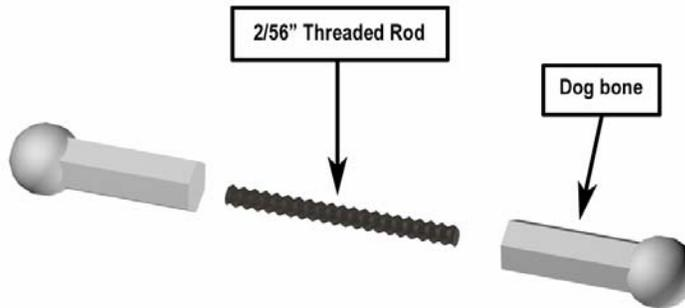

Figure 47: Dog Bone Assembly
4. Join the 2 dog bones by threading the 2/56" threaded rod into each end of the dog-bones. Install the threaded rod completely into 1 dog-bone before threading the other (Figure 47). Repeat this step for all of the legs on your HexCrawler. This is often easiest done with a small vise. Don't grip the dog bones or the threaded rod too hard or you could damage the parts.